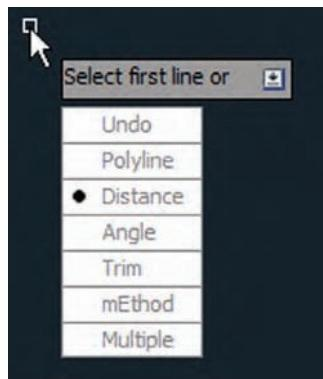

FIGURE 2.26 Displaying a command-line option on the canvas with dynamic input
2. Press the down-arrow key three more times and press Enter to select the Distance option in the Dynamic Input display (see Figure 2.26). Type **1'** (or **30** for metric) and press Enter twice to input equal first and second distances, which are **1'** (or **30** for metric) each.